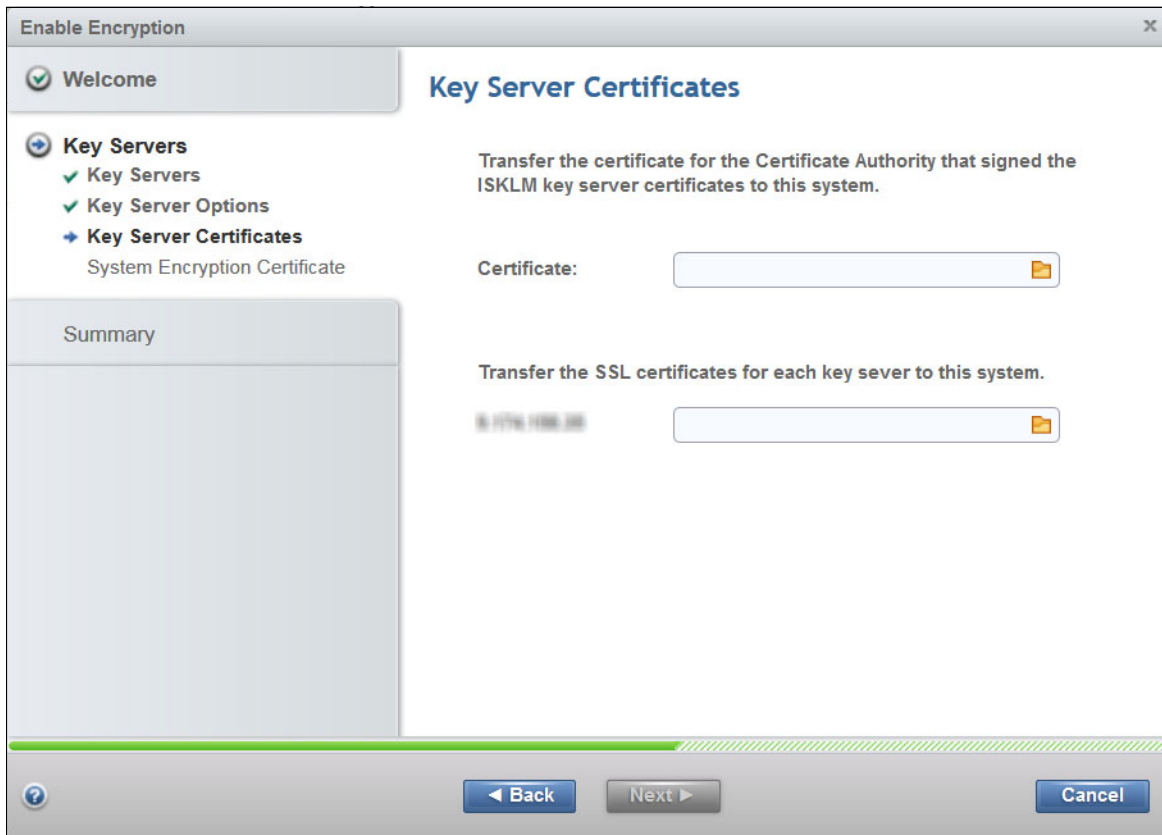

Figure 9-67 Authority or key server certificate.
3. Select the certificate you want to use (Figure 9-67):
- Certificate: Browse to the certificate provided by a Certificate Authority (CA).